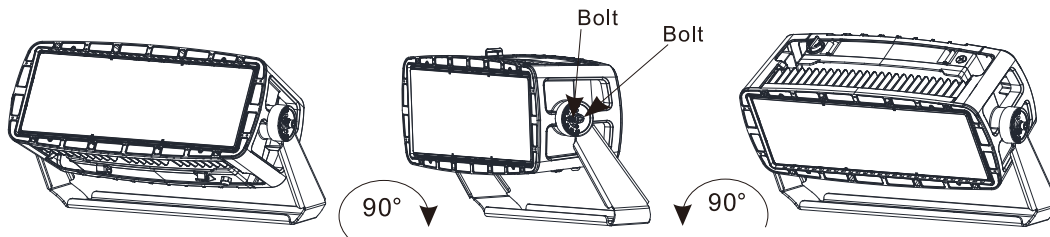

Figure 3
- Set the up/down orientation by loosening the (2) bolts on each side of the fixture where the yoke mount attaches to the fixture and rotate the fixture up or down then retorque the bolts to 22.2 ft.lbs. (Figure 3)